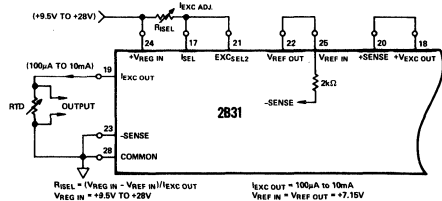

Figure 3. Constant Current Excitation Connections (VCOMPL = 0 to +5V)
**Current Excitation Programming:** The constant current excitation output can be adjusted between 100µA to 10mA by two methods with the 2B31. Figure 3 shows circuit configuration for a current output with the maximum voltage developed across the sensor (compliance voltage) constrained to +5V. The value of programming resistor RISEL may be calculated from the relationship: RISEL = (VREG IN - VREF IN)/IEXC OUT. This application requires a stable power supply because any variation of the input supply voltage will result in a change in the excitation current output.